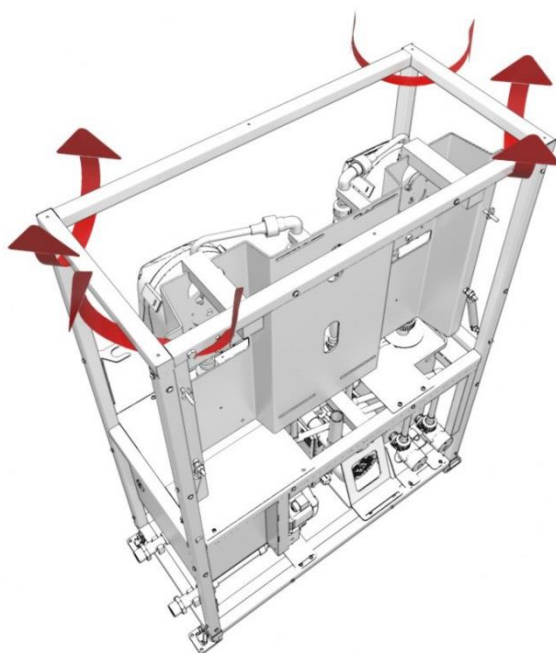

Figure 7: Position of the lifting sling
- When transporting the system using a crane, the hoisting belts must only be positioned on the corners of the frame (Figure 7).